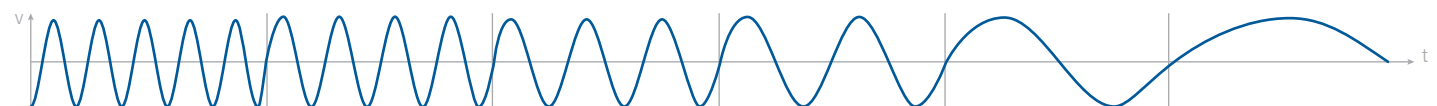

Figure 1: Equivalent circuit diagram of a current transformer.
When currents are being transformed, losses occur in a current transformer which are primarily influenced by its core. If this behavior is considered based on an equivalent circuit diagram, losses of this nature can be depicted using a non-linear component (Z_e) connected in parallel (Figure 1). The magnetizing current flows via this component. If this is plotted across the operating range, one gets the magnetization curve. The flux density (B) and the magnetic force (H), generated from the primary current, are represented in a diagram (B-H characteristic curve). The shaded area represents the hysteresis losses, which correspond to the energy converted to heat in the core (Figure 2). The magnetization curve intersects at the turning point of the hysteresis loop and is often specified by the manufacturer of the current transformer.